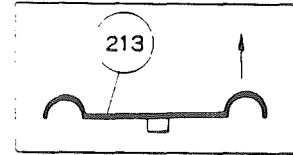

Fig. 39
- i) Attach spring retainer (214) to condenser receptacle (204) with screws (231A) x2.
- ii) Insert plate spring (213) between (204) and (214). Bend the spring as shown by the arrow in Fig. 39.
- iii) Apply G7910 to the sliding surface of condenser centering mount (203), and condenser receptacle (204).
- iv) Insert (204) into (203).
- v) Screw condenser clamp screw (215) into (204) through the opening of (203).
- vi) See that no seizure occurs between (203) and (215), when manipulating right and left condenser centering screws (216) to bring (204) to the center, and (215) operates smoothly.